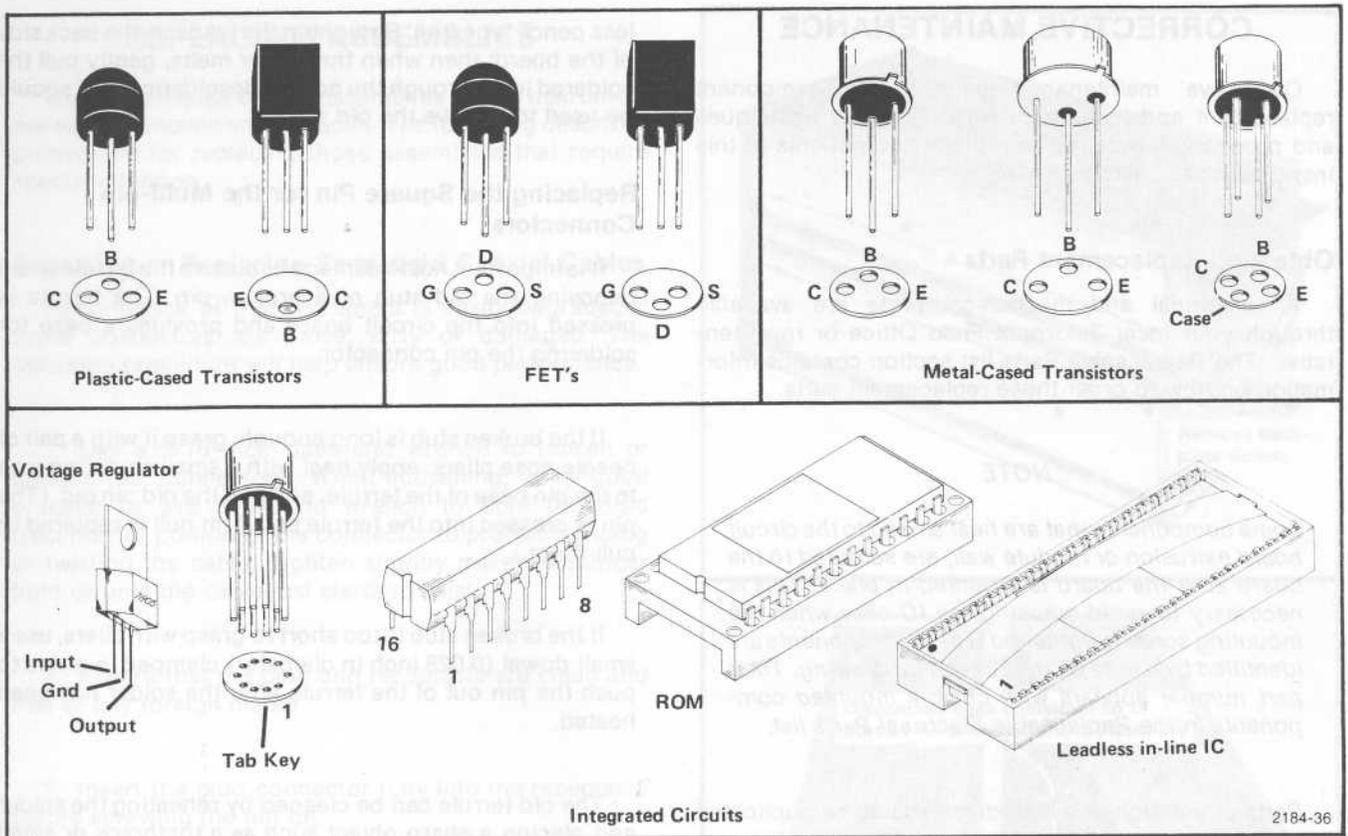

Fig. 5-4. Pin configuration for semiconductor components.
**Transistor and Integrated Circuit Pin Configuration.** Lead identification for the transistors and MOS FET's is shown in Fig. 5-4. IC pin outs are shown either by table or box on the schematic diagram.
d. Use only good components for substitution and be sure the new component is inserted into the socket properly before soldering. Refer to the manufacturers data sheet or Fig. 5-4 for lead configuration.